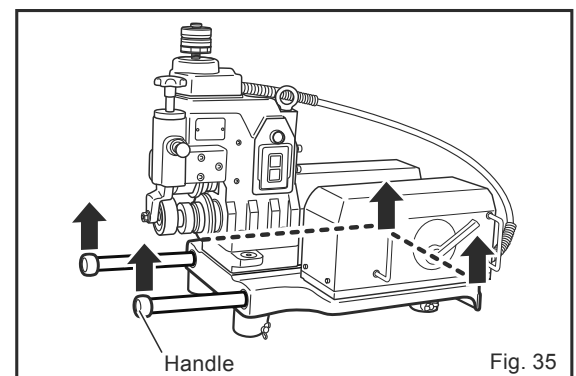

Fig. 35
- In case there is no hoisting device, have at least 4 people carry the machine by hand. To carry the machine, pull out the handles located in the base and then move the machine, holding it in the positions indicated by the arrows in the picture. (Fig. 35)